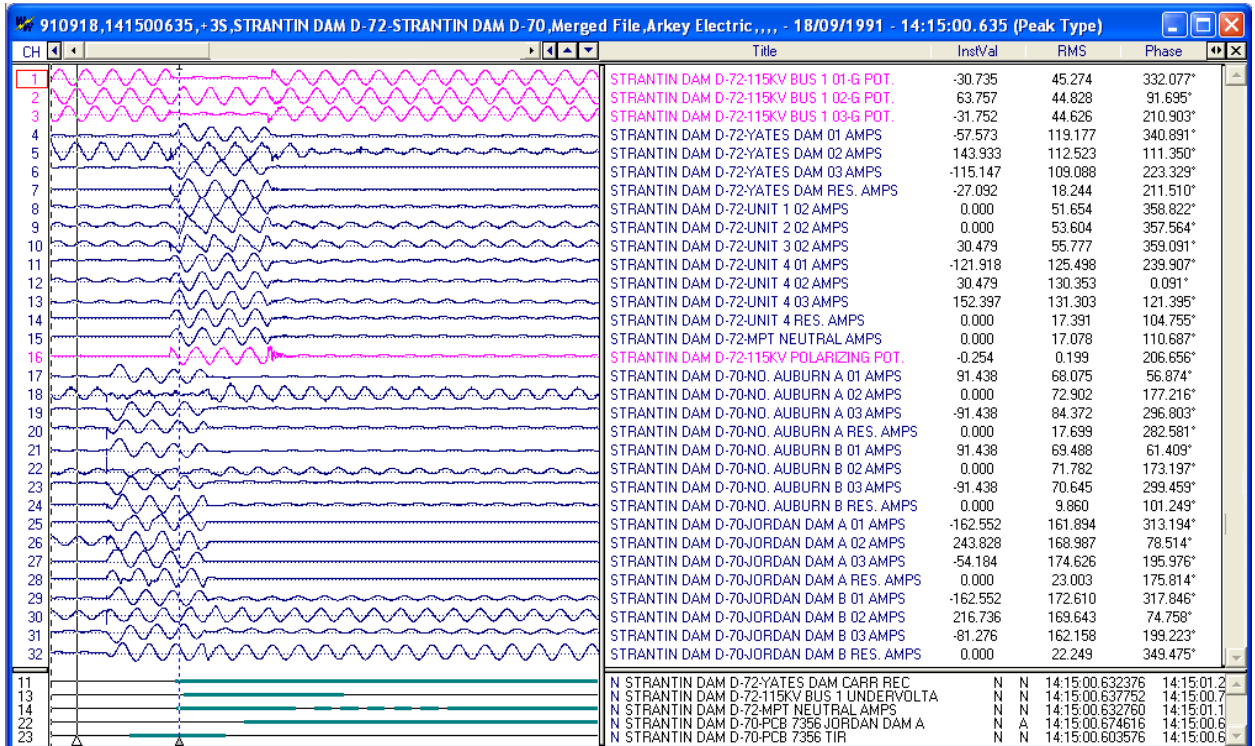

Figure 1.24 Merge Waveform Files By Sample
- By Sample: Merge regardless of time stamps. The reference time is from the first marked file. And the file with the least amount of samples determines the length of the file. Refer to Figure 1.24.